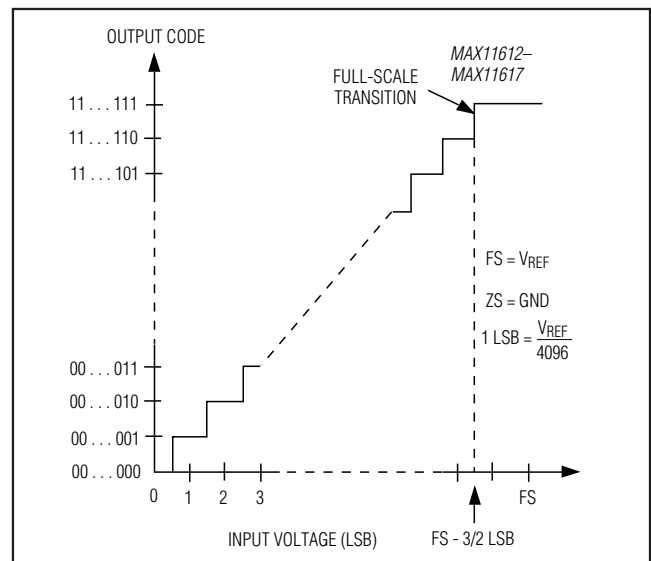

Figure 12. Unipolar Transfer Function
Output data coding for the MAX11612-MAX11617 is binary in unipolar mode and two's complement in bipolar mode with 1 LSB = $(V_{REF}/2N)$ where N is the number of bits (12). Code transitions occur halfway between successive-integer LSB values. Figures 12 and 13 show the input/output (I/O) transfer functions for unipolar and bipolar operations, respectively.